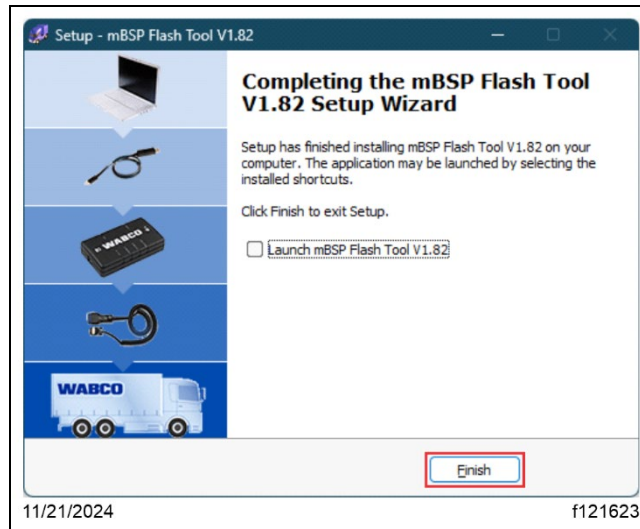

Fig. 45, Completing the mBSP Flash Tool Setup Wizard
7.18. Select 'Finish' to complete the mBSP Flash Tool V1.82 setup wizard. See Fig. 45.